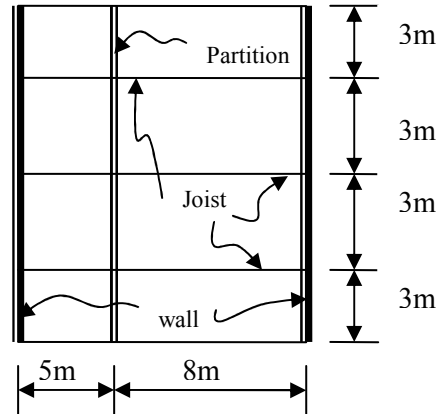

Fig.2
- (b) Determine the reactions for a typical interior joist in the floor framing system that supports a partition wall as shown in fig.2. Assume partition 2m high 100mm thick of 20kN/m^3 density. Assume Dead-Load of the Floor= 2.5kN/m^2 & Live-Load= 3.5kN/m^2 . 07